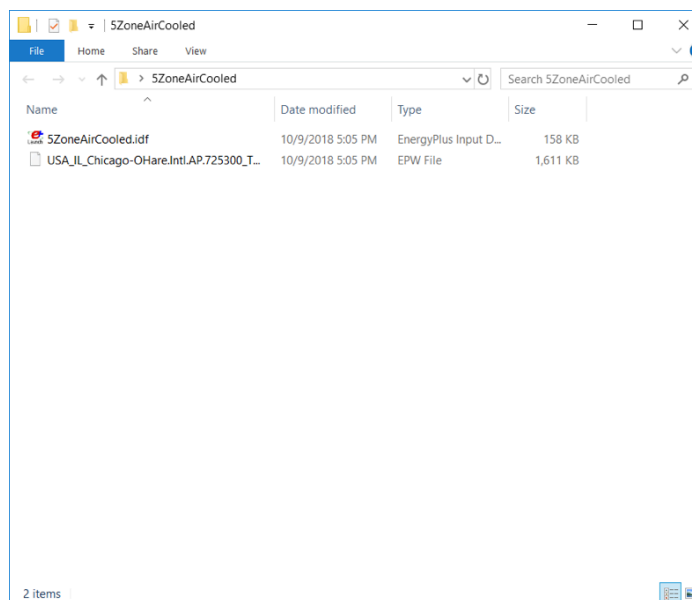

Fig. 1 Directory Contents Before Run
2. Obtain a weather file. This model is situated in Chicago, IL, so copy the Chicago weather file `/WeatherData/USA_IL_Chicago-OHare.Intl.AP.725300_TMY3.epw` into the directory with the IDF file. At this point the directory will look something like what is shown in Fig. 1.